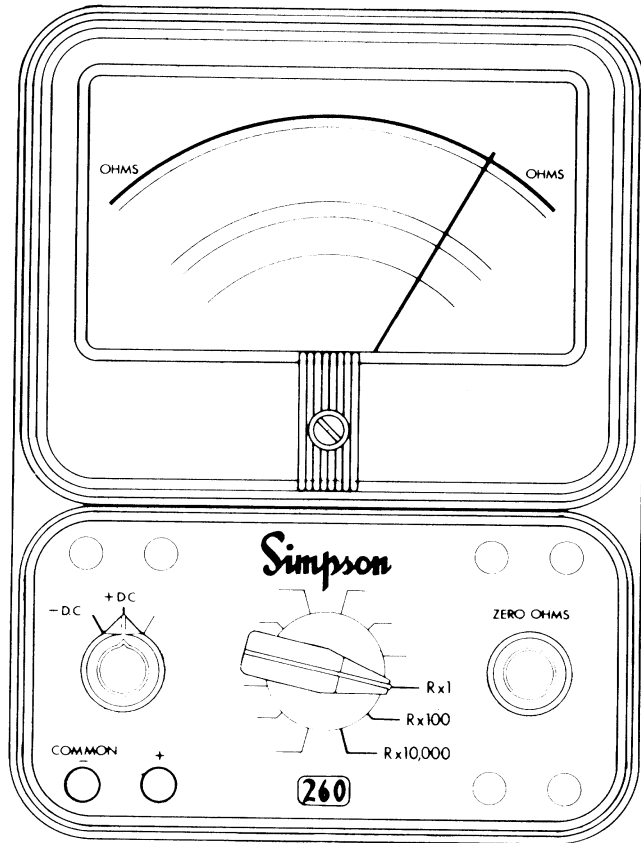

Figure 4-8. Jacks and Switch Positions for Measuring Resistance
- b. Set the range switch to one of the resistance range positions as follows (Figure 4-8):